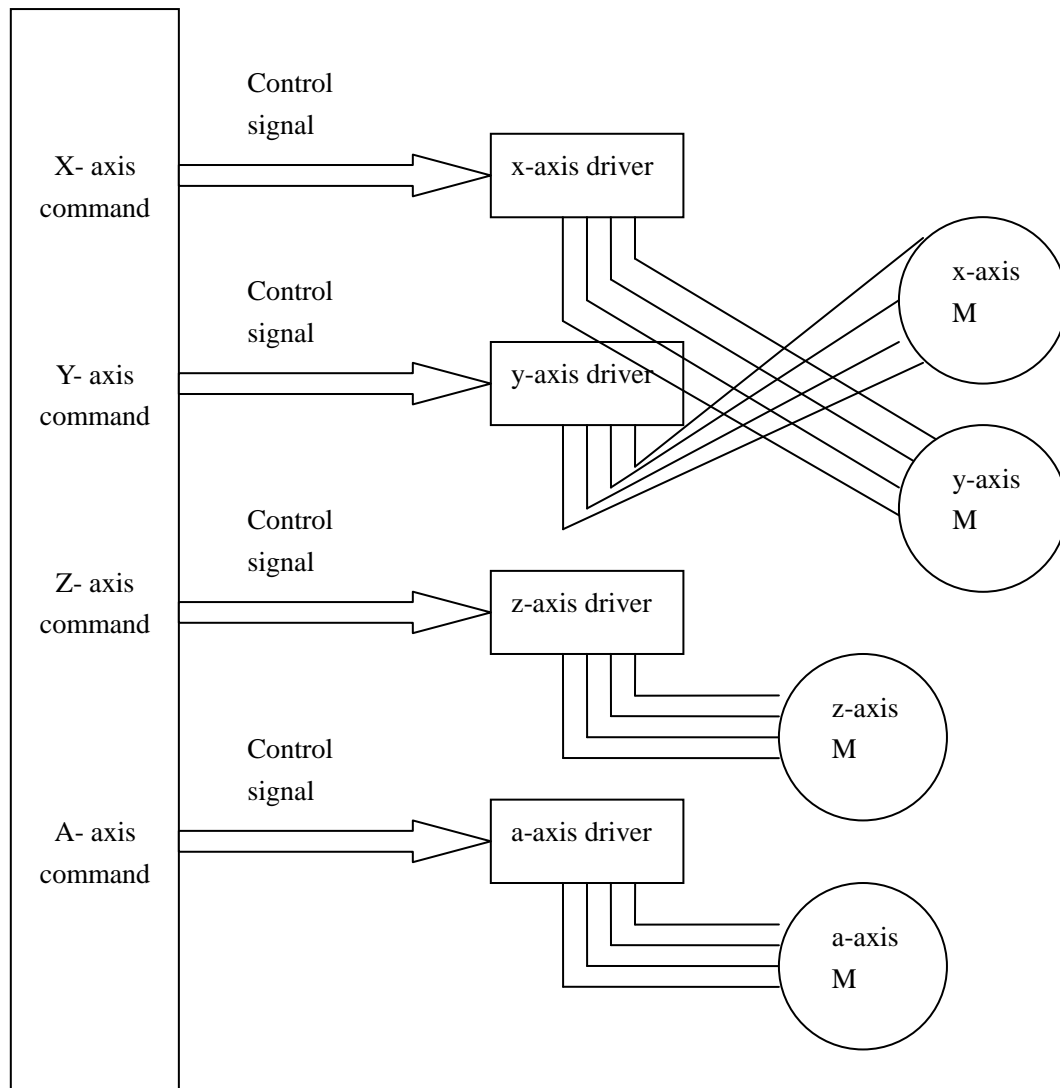

Figure 6-6
2.check step motor and wiring, For example, x, axis have some problem, you can do as Figure 6-6	2. if stepper motor have having issues, replace it. Do not unplug stepper motor with machine on and computer on. This will cause 5 axis card to not work